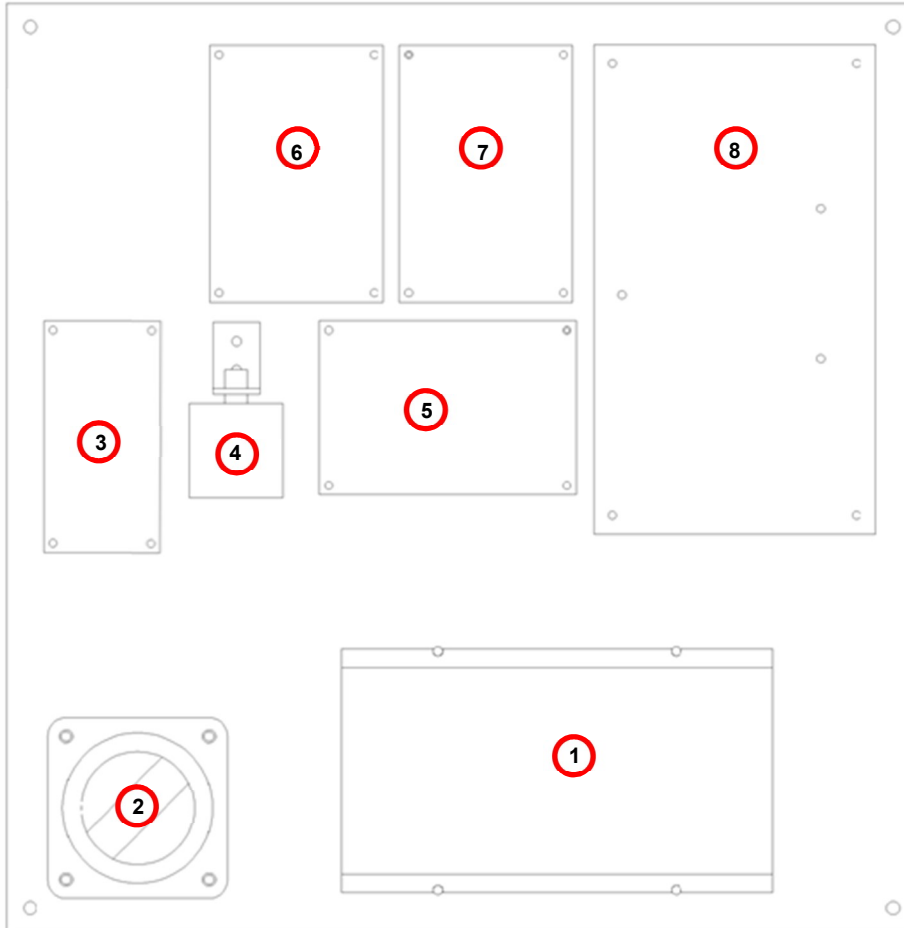

Figure 5 – Position of components
4. The antenna MUST be mounted on the side of the utility pole that faces the transmitter (see Figure 5)